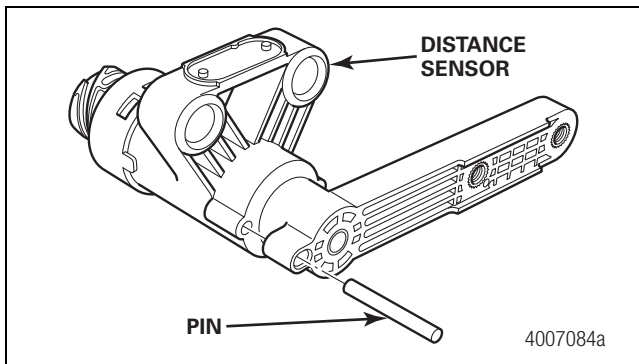

**Figure 19**
- B. The Meritor WABCO Distance Sensor must be attached to the trailer structure directly above the axle, close to the axle's center. Figure 19.
The Distance Sensor is mounted to the cross member above the axle. Figure 19. It must be mounted directly to the trailer structure. If needed, a steel bracket may be fabricated and then welded to the cross member, in order to bring the Distance Sensor to the appropriate mounting height. The distance sensor should be mounted close to the center of the trailer.